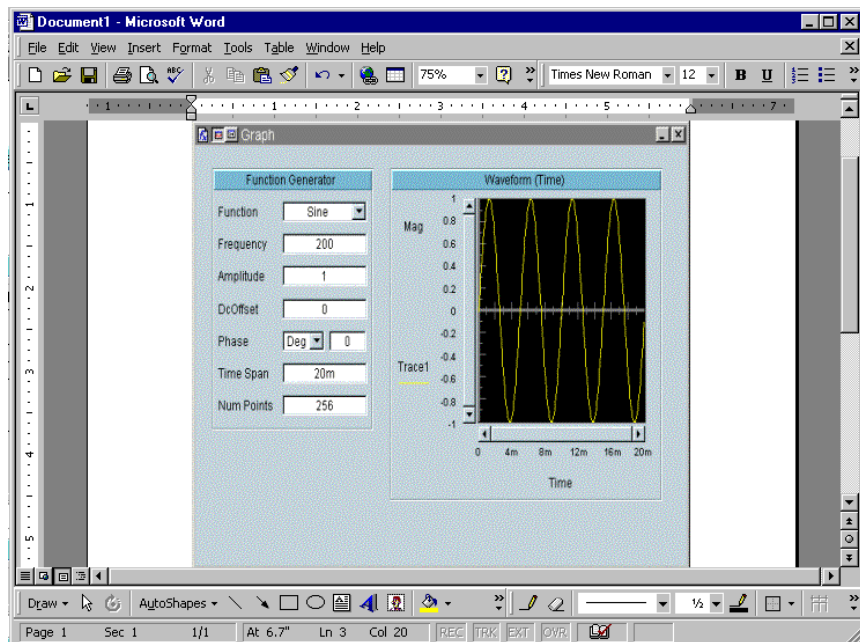

Figure 6-18. The MS Word Document Created by Lab 6-3
- Run the program. It should look like Figure 6-18. (If the colors look strange in the screen dump, iconize any open applications, so the PC has a full palette of colors to work with.)